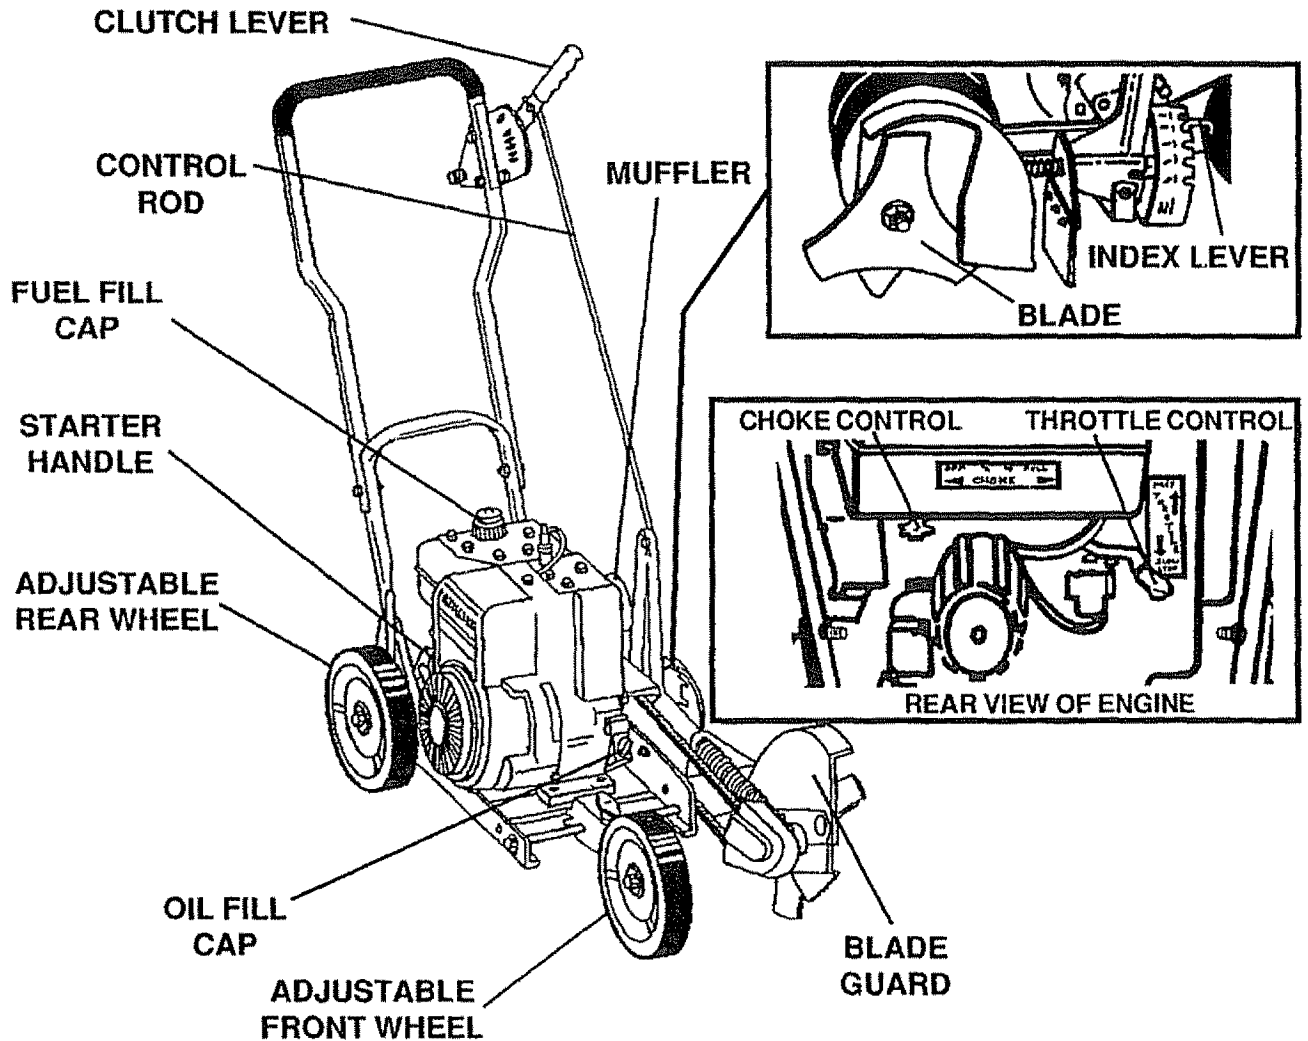

FIG. 6
- Move the clutch lever to all six (6) positions in the selector plate. Make sure the clutch lever snaps into all six (6) holes (See Fig. 6).
- Move the index lever to all six notches in the index plate (See Fig. 6).
- Move the throttle control lever (See Fig. 6) to the RUN position.
- Move the choke control lever (See Fig. 6) to the FULL choke position.
WARNING - AVOID THE MUFFLER AND SURROUNDING AREAS (SEE FIG. 6). TEMPERATURES MAY EXCEED 150° F.